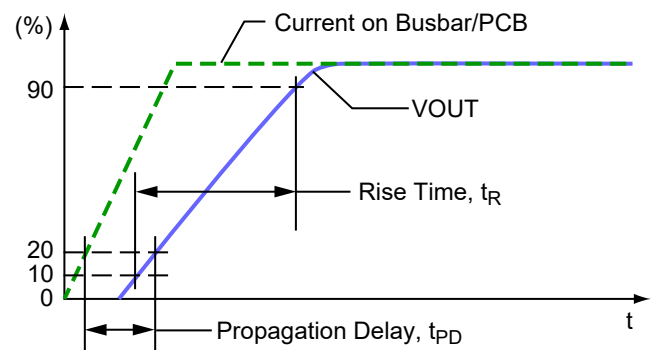

Figure 40: Propagation Delay ( $t_{PD}$ ) and Rise Time ( $t_r$ )
**Rise Time ( $t_r$ ).** The time interval between a) when the sensor reaches 10% of its full-scale value, and b) when it reaches 90% of its full-scale value, as shown in Figure 40.
**Propagation Delay ( $t_{pd}$ ).** The time interval between a) when the sensed current reaches 20% of its full-scale value, and b) when the sensor output reaches 20% of its full-scale value, as shown in Figure 40.